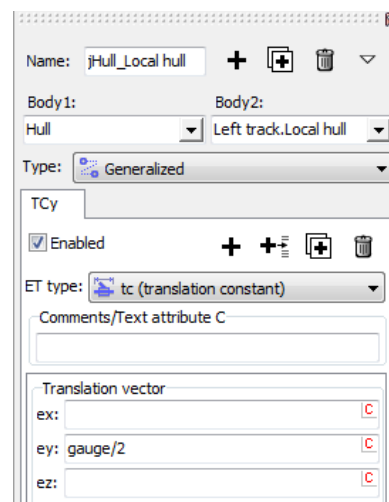

Figure 1.30. Joint rigidly connecting hull of TV and local hull of left track
- Set the lateral shift of the track. In example in Figure 1.30 the gauge is set by the identifier  $gauge=2.6$  m.